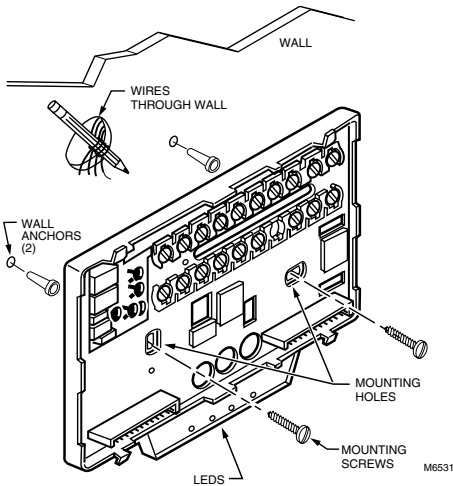

Fig. 7. Mounting the subbase.
2. Use a pencil to mark the mounting holes. See Fig. 7.